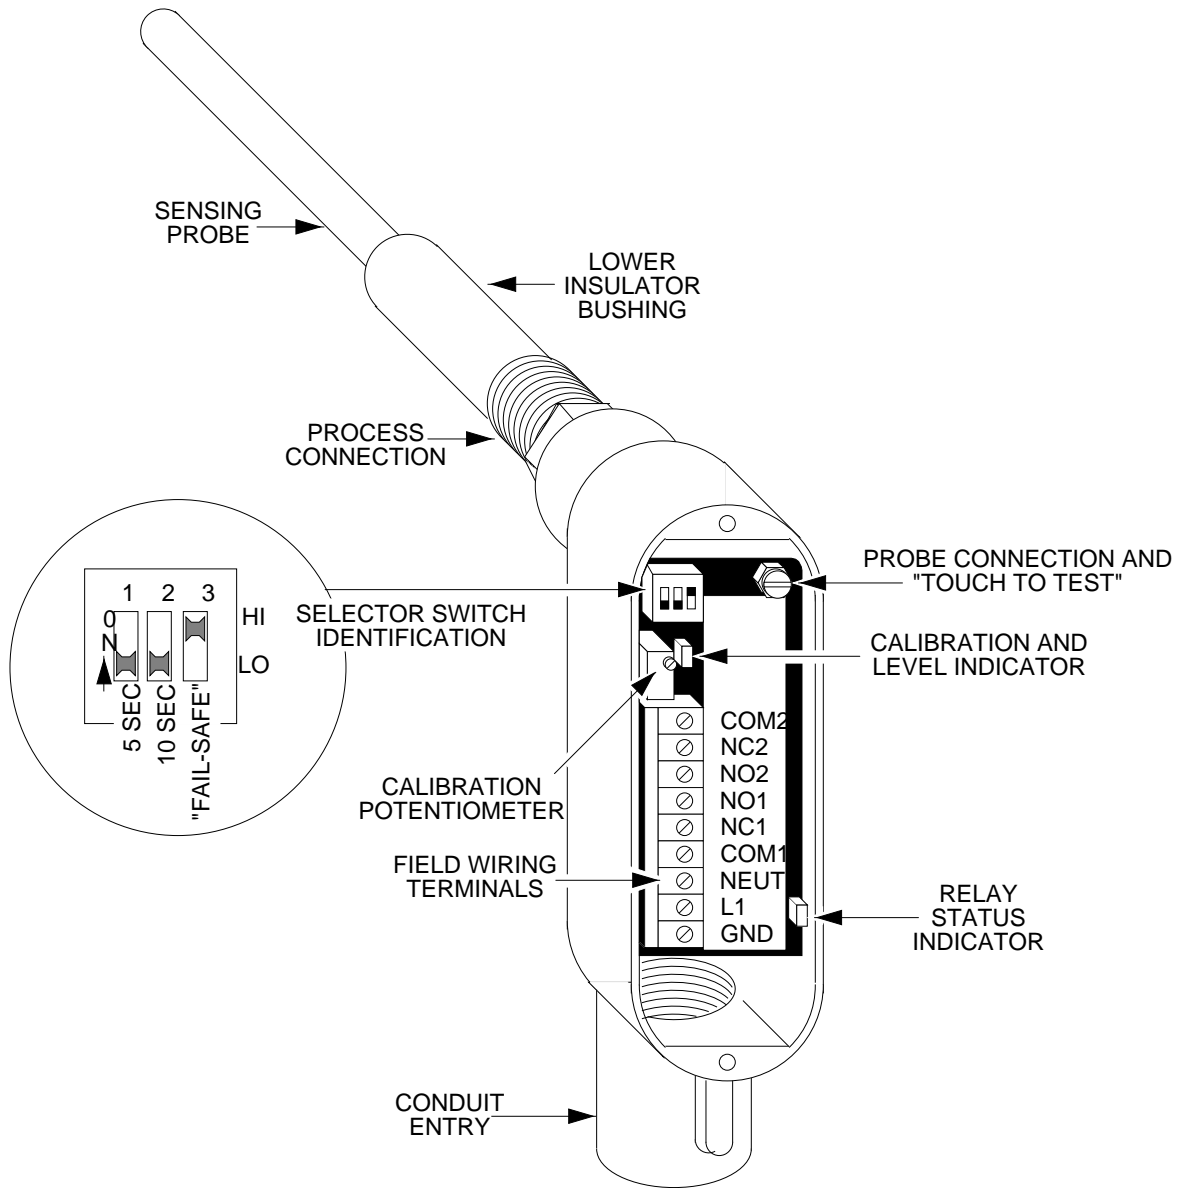

Figure 3.6: Location of Adjustments and Controls
- 3.5 Calibrate the LV750 unit using the following procedures. See Figure 3.6 for location of adjustments and controls.
STEP 3. Remove the cover of the enclosure and locate the adjustment potentiometer. See Figure 3.6.